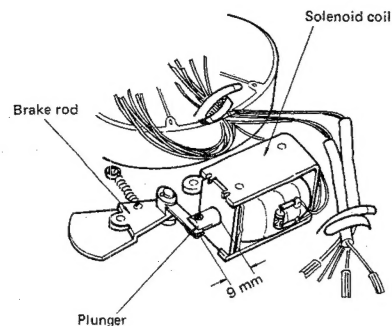
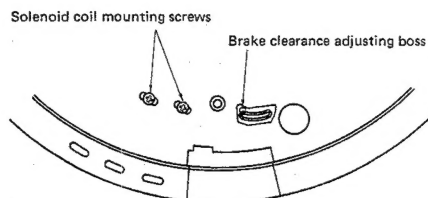

Fig. 15
Fig. 16
1. Fit the brake lining inside the platter (The function is the same as a normal brake). Slightly loosen the 2 solenoid mounting screws, then adjust the solenoid coil position until the clearance between the solenoid coil end and the plunger head is 9 mm. (Refer to Fig. 15.) After the adjustment, be sure to re-tighten the screws firmly (Refer to Fig. 16).
• How to use the brake clearance adjusting boss. (Refer to Fig. 16)